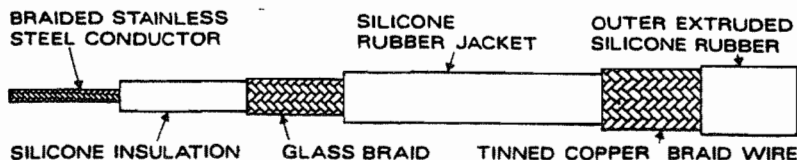

Figure 207
F. Dura-Blue High Tension cable (53), used on all TCM High Tension Harnesses is available in 100 foot rolls. Dark blue silicone coating provides maximum abrasion resistance. Tightly woven tinned copper braid insures minimum radio interference radiation. Sixteen strands of braided stainless steel wire form the durable conductor. Flexibility is retained up to -65°F. The cable can withstand temperatures up to +400°F. Refer to Figure 207.